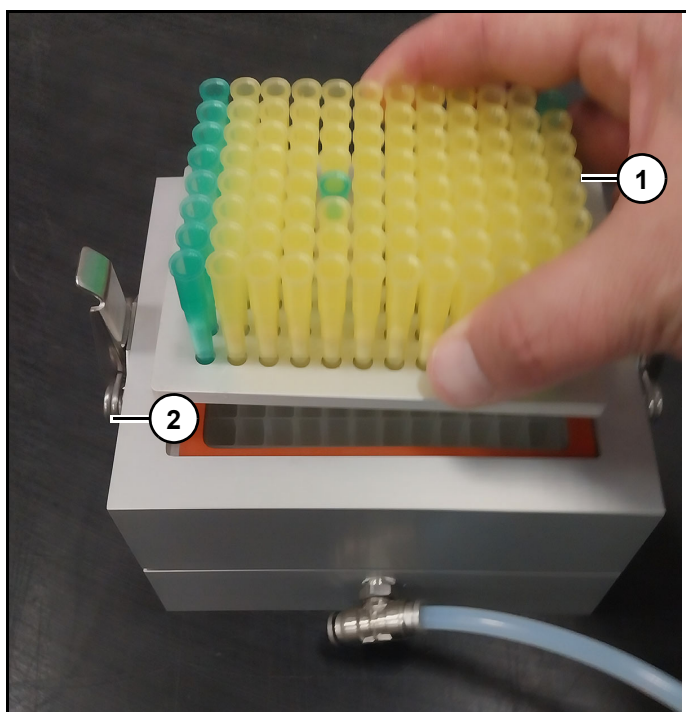

Figure 115
- Place column chuck (1) into recess of cleavage chuck (2), making sure that column A1 is in upper left hand corner. (Figure 115)